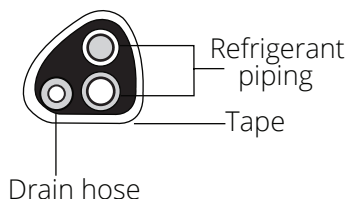

Fig. 5.7
3. Now, you will need to lightly tape the refrigerant piping and drain pipe together in a bundle, using electrical tape, making sure that the drain pipe is at the bottom. **DO NOT tape the ends of the piping (connectors).** Refer to Fig 5.7 and the image below for the correct orientation of the piping when taping.